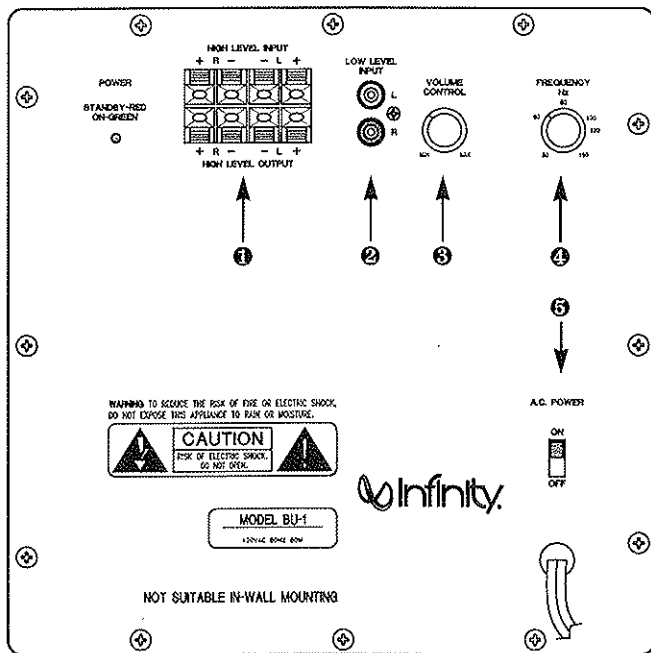

Figure 2
Refer to *figure 2* to identify the controls of your subwoofer's internal amplifier:
1. Set the subwoofer's Volume control ⑤ (*Fig. 2*) to 12 o'clock.
2. Set the subwoofer's low Frequency rolloff control ④ (*Fig. 2*) to 12 o'clock.
3. Switch the subwoofer's AC Power switch ⑥ (*Fig. 2*) to the "ON" position.
5. Turn the Volume control ⑤ (*Fig. 2*) to its mid position. If no sound emanates from the subwoofer after the auto-sensing system turns it on, check the ac line cord and input cables. Are the connectors on the cables making proper contact? Is the ac plug connected to a "live" receptacle?
7. Set the overall volume control of the preamplifier or stereo to a comfortable level. Begin with the subwoofer's Frequency ④ (*Fig. 2*) and Volume ⑤ (*Fig. 2*) control at the 12 o'clock position. Adjust the subwoofer's Volume control ⑤ (*Fig. 2*) until you obtain a pleasing blend of bass. Bass response should not overpower the room, but rather be adjusted so there is a harmonious blend across the entire musical range. Many users
8. The Frequency control ④ (*Fig. 2*) sets the high frequency roll-off, adjustable from 50 to 150 Hz. Where this control is set depends on the low frequency capabilities of your satellite speakers, system placement, and other factors affecting the mid-bass region. Turn the control UP (clockwise) until you feel there is too much mid-bass information (around 100Hz) then back the control down a bit until that area sounds more natural. If you are pleased with the mid-bass but want to hear more low bass, turn the Frequency control DOWN a bit and the Volume control UP by about the same amount. This will increase low bass while leaving the mid-bass sounding the same as it did before the adjustment. To get a reduction in low bass without changing mid-bass, turn the Frequency control UP and the Volume control DOWN.